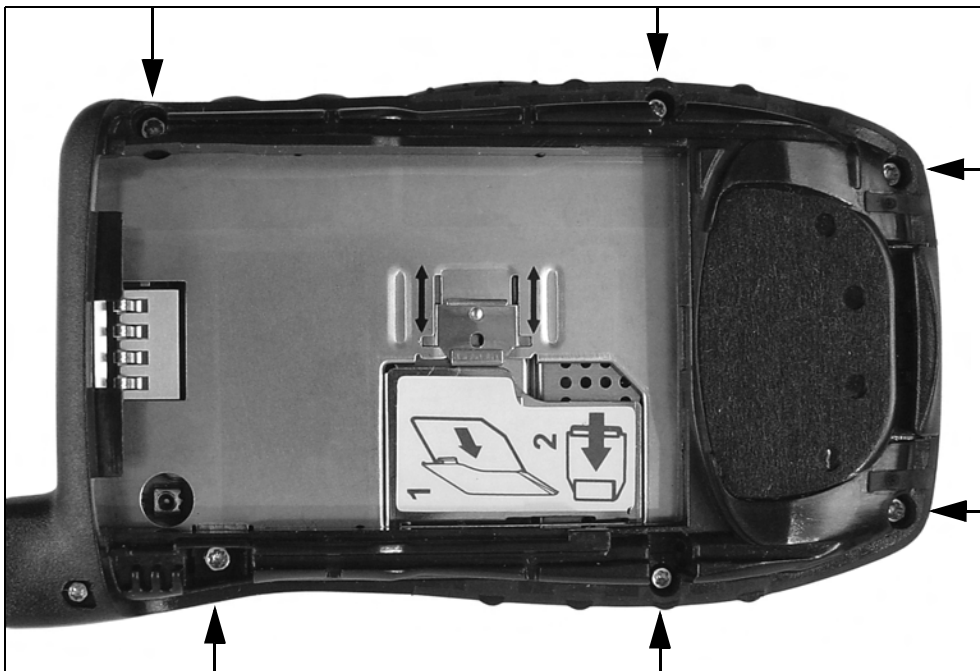

Figure 7-4.
1. Remove six housing screws, four T-6 screws-one in the antenna tube channel-and two T-4 screws (see Figure 7-4).